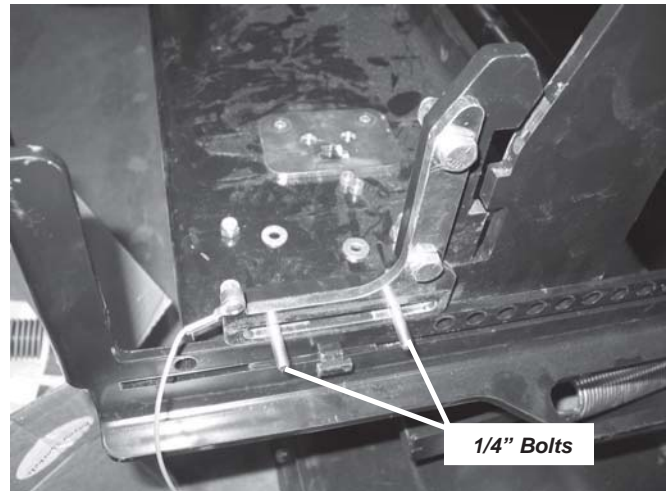

Figure 21 Install 1/4" bolts
23. Install from the inside two 1/4" dia x 1-1/2" long bolts through the plow support and latch assembly. See Figure 21.